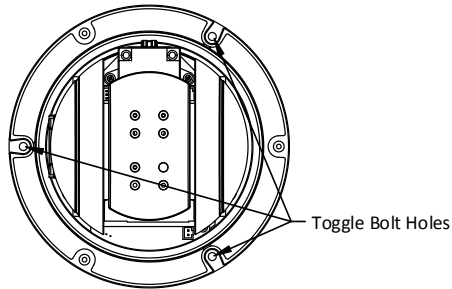

Figure 1-21 Toggle Bolt Holes
- 2). Insert the bolts into the screw holes on the dome as shown in Figure 1-21.